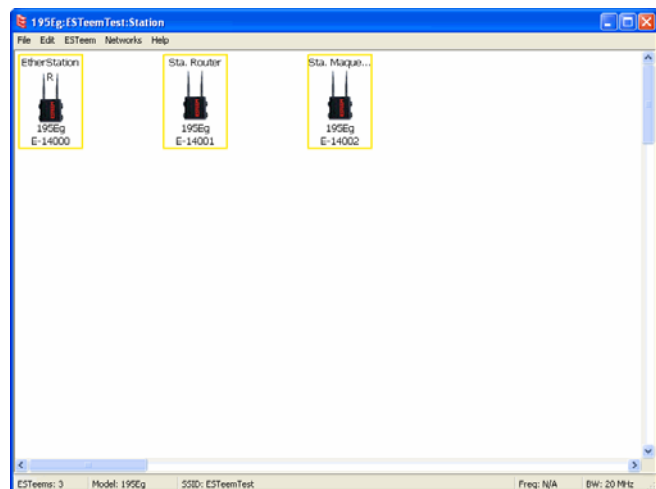

Figure 24: Station Mode Example Modems
2. Add the three mobile client modems to the ENC Utility configuration page as instructed above and set the Modem ID to match the three modes of operation. Your configuration will appear as in Figure 24.
Technical Tip: The ESTeem 195Eas in Mobile Client modes do not have a specific frequency of operation as can be seen in Figure 24.